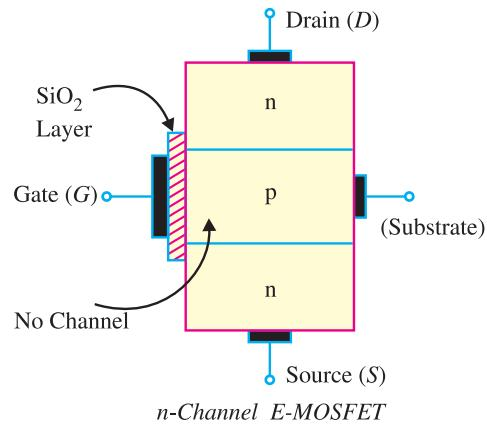

Fig. 19.44
**2. E-MOSFET.** Fig. 19.44 shows the constructional details of *n*-channel E-MOSFET. Its gate construction is similar to that of D-MOSFET. The E-MOSFET has no channel between source and drain unlike the D-MOSFET. Note that the substrate extends completely to the  $\text{SiO}_2$  layer so that no channel exists. The E-MOSFET requires a proper gate voltage to *form* a channel (called induced channel). It is reminded that E-MOSFET can be operated *only* in enhancement mode. In short, the construction of E-MOSFET is quite similar to that of the D-MOSFET except for the absence of a channel between the drain and source terminals.